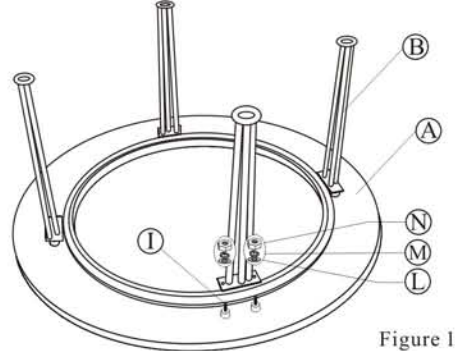

Figure 1
Carefully place Cast Aluminum Tabletop Rim (A) upside down on a flat, non-abrasive surface. Insert 1/4" x 30mm Headless Bolts (I) into pre-drilled holes in the tabletop rim. Tighten headless bolts. Do not over-tighten. Attach Firepit Leg (B) by positioning over headless bolts (I) as shown in Figure 1. Add a 1/4" washer (L), 1/4" lock washer (M) and 1/4" nut (N) to the end of each bolt. Tighten nuts and bolts a few revolutions at a time only as some adjustments may be necessary for proper alignment of the Firepit Legs and the Tabletop Rim. **DO NOT TIGHTEN COMPLETELY.**